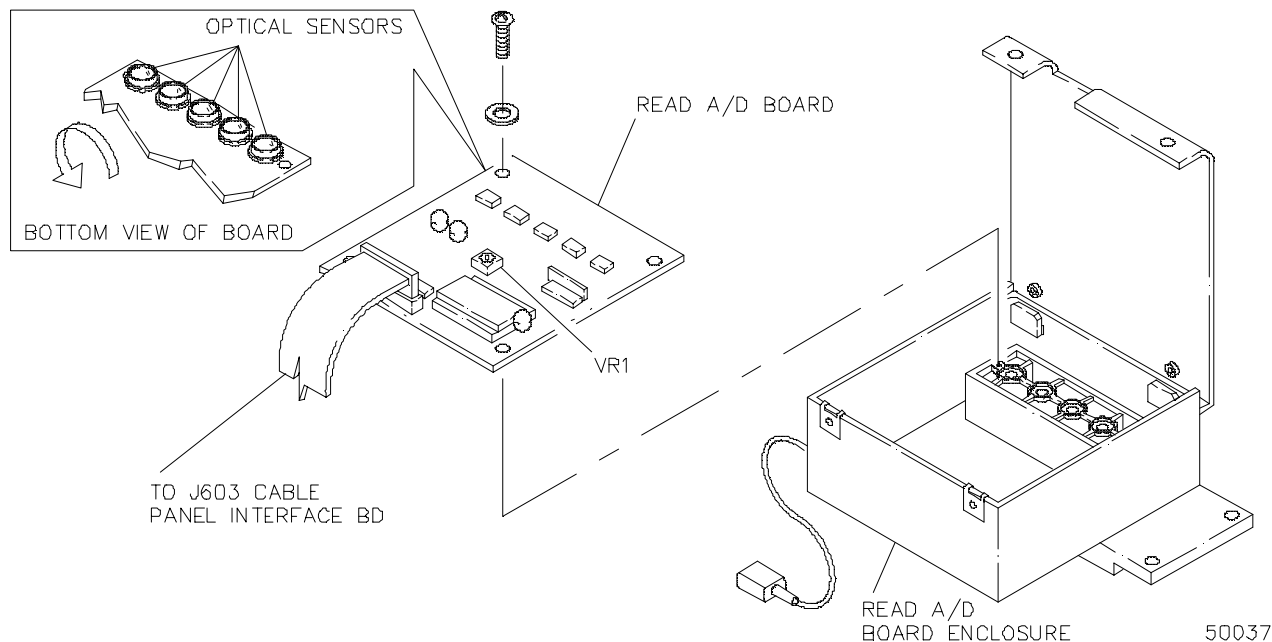

Figure 4-37. Read A/D Sensor Enclosure
5. Disconnect cable at J603 on Cable Panel Interface Bd (**Figure 4-37**).
6. Remove the Read A/D Sensor Enclosure Assy with mounting hardware from four places (**Figure 4-37**).